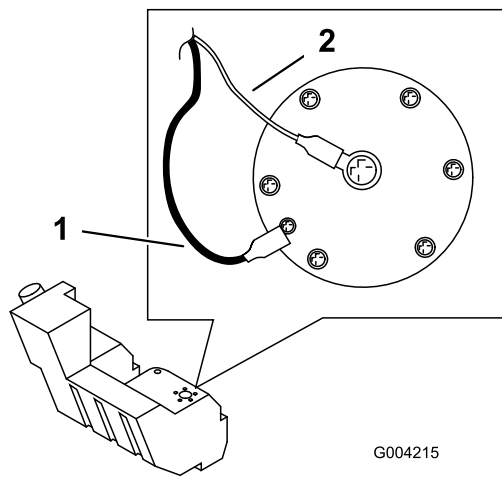

Figure 57
12. Disconnect the two wires leading to the right side of the tank (Figure 57).
19. On the right side of the tank, connect the orange wire to the center post and the black wire to the outside post (Figure 57).